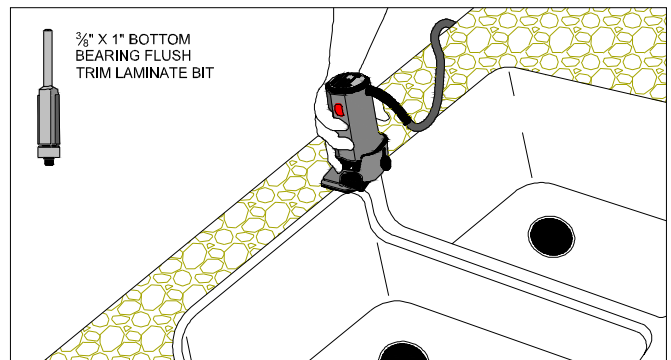

Figure 12B
- Adjust the laminate tilt-base trim router with a  $\frac{3}{8}$ " bottom bearing flush trim bit. (FIG. 12B)
- Route around the inside of the sink. (FIG. 12B)